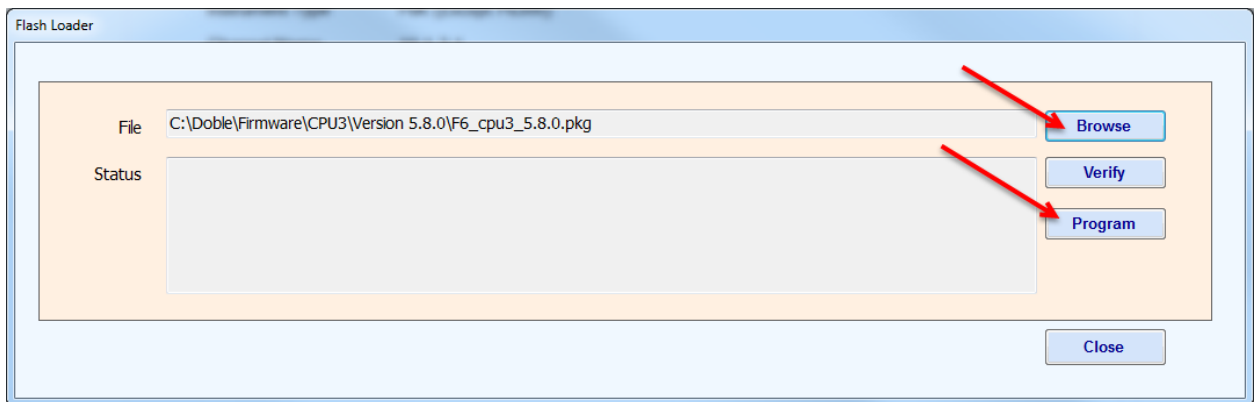

Figure 7. Flash Loader example for F6 CPU3 (Protection Suite 4.2 and later)
23) Observe the Flash Loader, shown in Figure 7